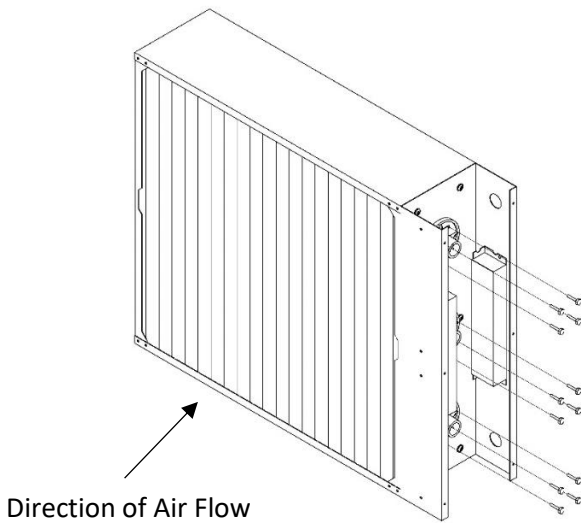

Figure 15
6.) Lamps are attached to Catalyst Panel with (4) 10-16 Self-Drilling screws per lamp. Remove the screws using a 5/16" socket. See Figure 15.
10.) Reinsert (4) screws per lamp using a 5/16" socket. See Figure 15.